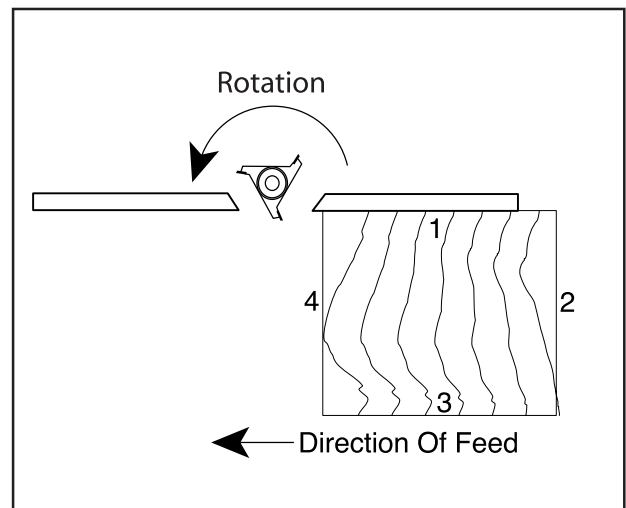

Figure 34. Fence adjustment for multiple cuts.
5. Always cut the end grain first when putting an edge around the perimeter of your workpiece (**Figure 34**).